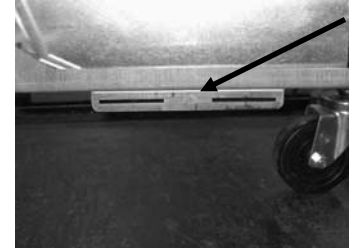

Figure 1: Attach alignment bracket to bottom of ATO box brace.
Bulk oil systems have large oil storage tanks, typically located in the rear of the restaurant, that are connected to a rear manifold on the fryer. Waste oil is pumped from the fryer, via a fitting located on the rear of the fryer labeled DISPOSE (see Figure 1), to the disposal tanks and fresh oil is pumped from the tanks, thru the fitting located on the rear of the fryer labeled FILL, to the fryer (see Figure 2). Connect the bulk oil connections to plug located on the rear of the fryer (see Figure 3). The wiring diagram is located on the next page.
2. Attach alignment bracket to bottom of ATO box brace with provided nuts. See Figure 1.